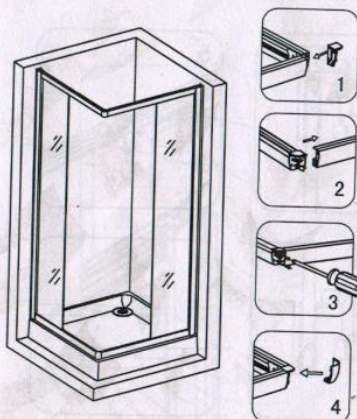

fig 11
10. Using the angle base (11) to connect the two guide rail. Then tighten it by round head screw ST 3.5x12. Finally, cover the angle cap (10). (fig 11)